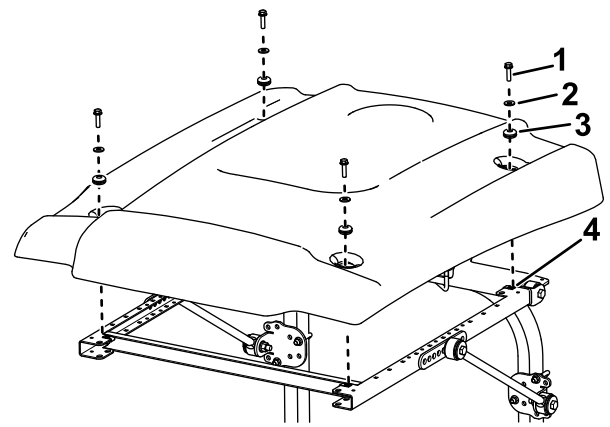

Figure 21
16. While aligning the mounting holes, position the sunshade onto the frame as shown in Figure 21.
17. Loosely mount each corner of the sunshade to the frame with a flange-head bolt (5/16 x 1 inch), a small washer, and a grommet (Figure 21).